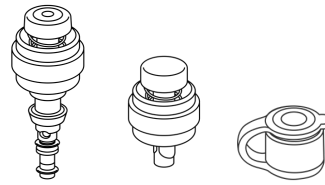

Figure 2
12. If using the 3-piece kit (See Figure 2), attach the **ANDORATE® biopsy valve**.